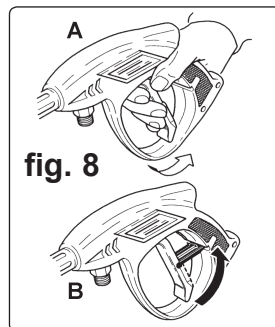

fig. 8
- 4.2.2. Press the trigger (fig. 8.A) for a few seconds to allow air to escape and to discharge any residual pressure in the pipes. Note that to prevent accidental operation the trigger can be locked, see fig. 8.B.
- 4.5.3. Switch the motor off, engage the trigger safety catch (fig. 8.B) and unplug the machine from the electrical mains power supply.